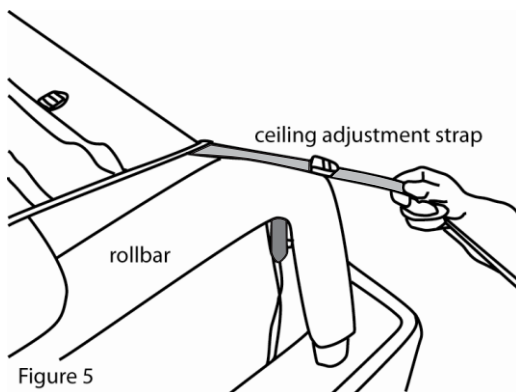

Figure 5
**Step 9.** Locate the ceiling adjustment straps (at rear corners on ceiling panel). Gently pull the strap over the rollbar, and around the seatbelt stud (toward the inside) and back up to the strap adjustment buckle. Tighten snug, and perform same procedure on the other side. Check top for evenness from side to side. See Figures 5, 6, 7, & 8.